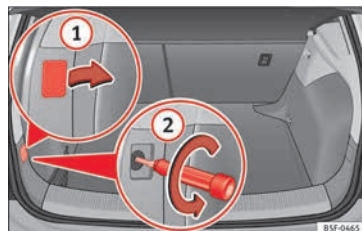

Fig. 115 Luggage compartment: location of the bolt securing the tail light unit.
- Remove the cover by prying the flat side of a screwdriver into the recess and remove the cover from the opening » Fig. 115 (1). »
- Carefully loosen the screw located behind the cover with a screwdriver, turning it anti-clockwise (arrows) » **Fig. 115 ②**.